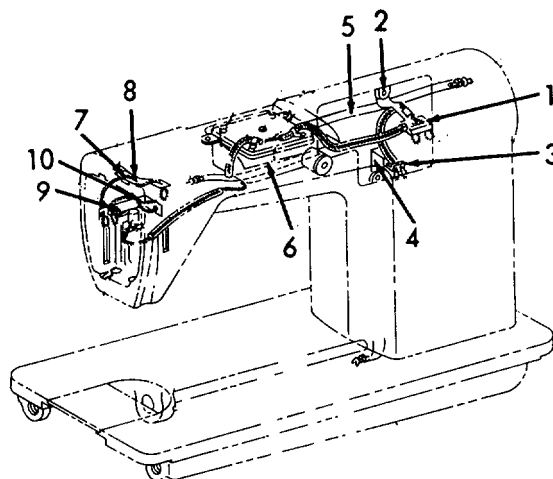

Figure 6-36. Upper (Arm) Lubricating Oil System, Installation.
- (1) Inspect hardware for damage.
- (2) Inspect top cover for damage.
- (3) Inspect rubber plug for deterioration and damage.
- (4) Inspect the reservoir and cover for damage.
e. Installation (Refer to Figures 6-36 and 6-38).
- (1) Refer to Figure 6-36. If removed, install new gaskets and then connectors.
- (2) Install bracket (1) and screw (2).
- (3) Install bracket (3) and screw (4).
- (4) Install oil wick (5) to connectors.
- (5) Install oil wick (6) to connectors.
- (6) Install bracket (7) and screw (8).
- (7) Install bracket (9) and screw (10).